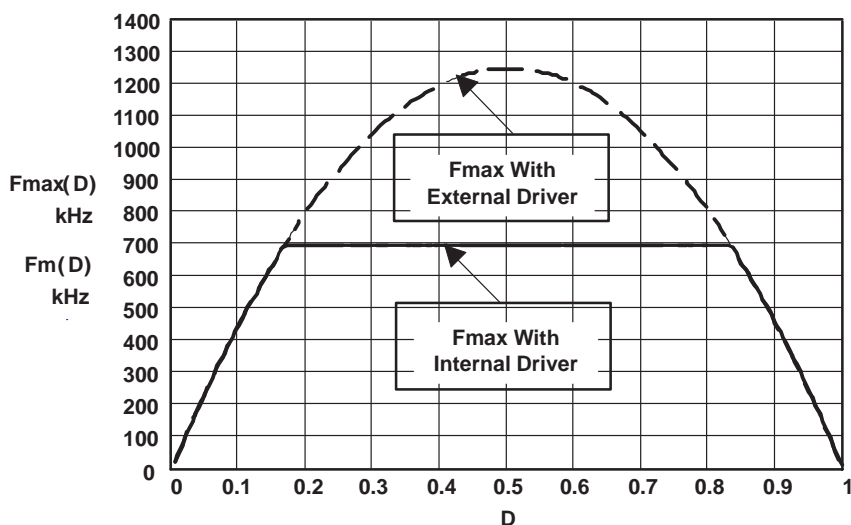

Figure 19
Figure 19 and equation (2) should be used to determine the maximum operating frequency of a converter. The operating frequency should not exceed the lower of the two values determined by Figure 19 and equation (2).